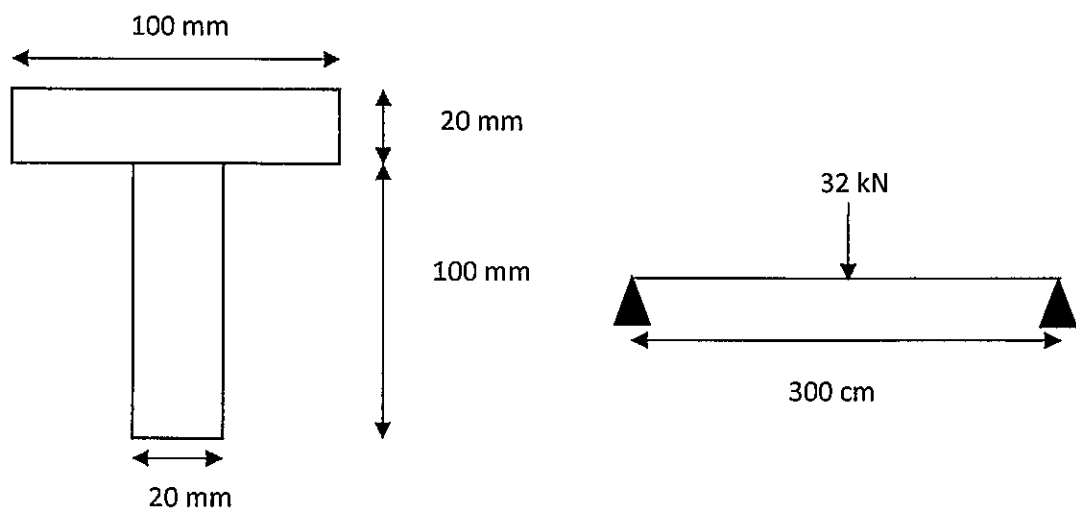

Figure 3(b) / Rajah 3(b)
- CLO2 b) Figure 3(b) shows the cross-sectional of the simply supported beam.
Based on Figure 3(b), calculate: